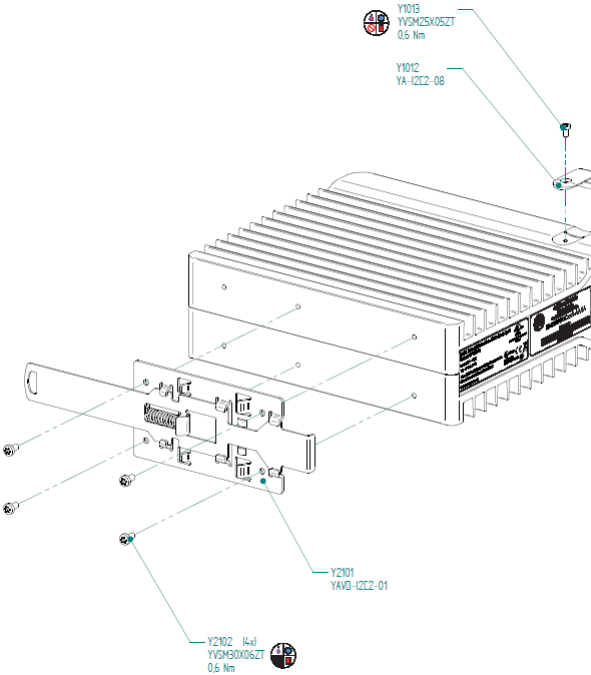

Figure 8: DIN-Rail Mount Bracket Assembly CPE400
1. Using a T10 TORX screwdriver, remove the four machine screws (Figure 8) that secure the DIN-Rail Mounting Bracket to the CPE400 chassis.